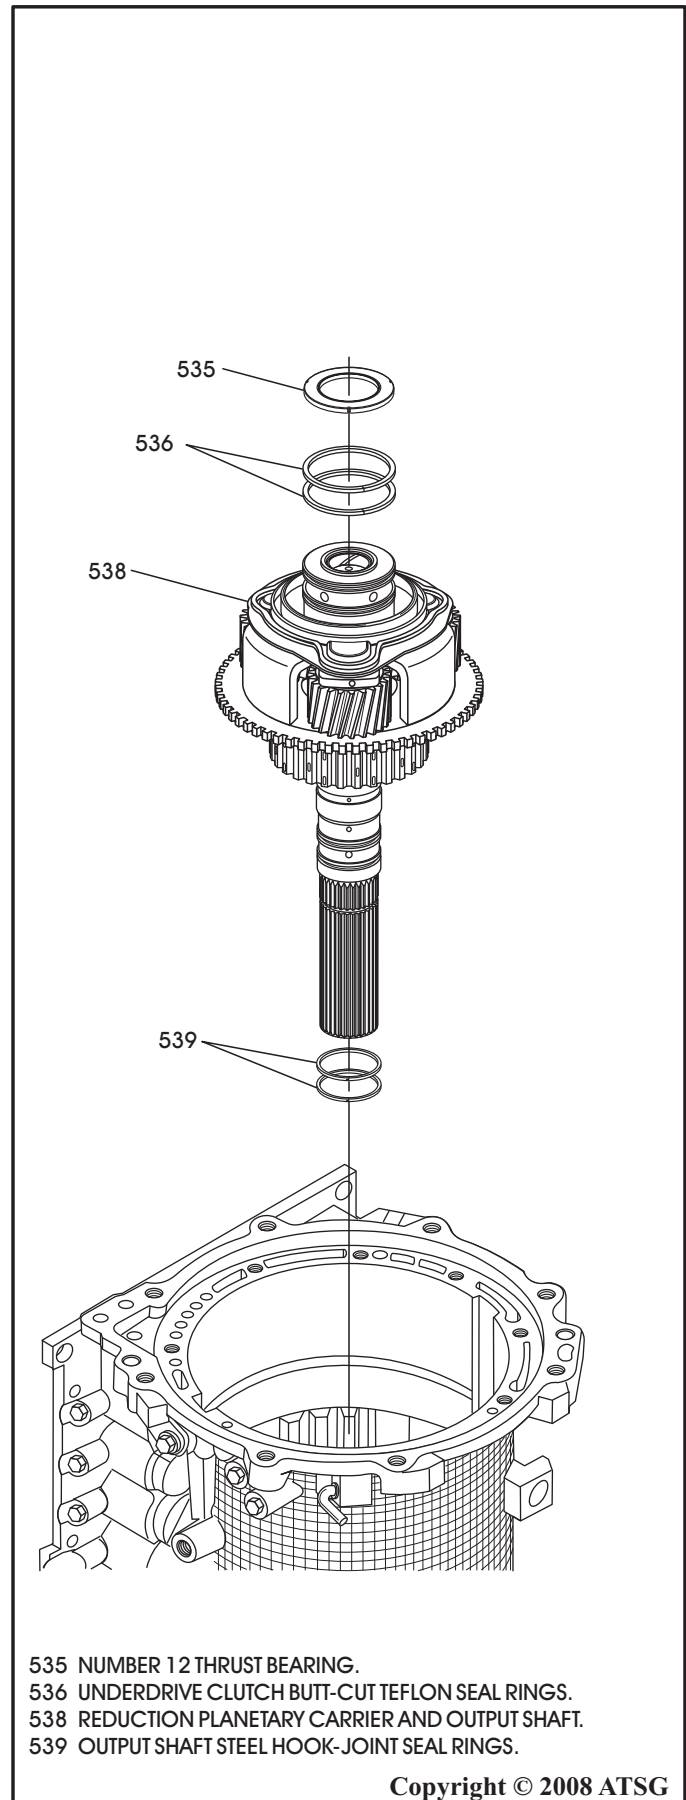

Figure 60
4. Remove number 12 thrust bearing, as shown in Figure 60.
5. Remove reduction planetary carrier and output shaft, as shown in Figure 60.
6. Remove and discard underdrive clutch butt-cut teflon seal rings, as shown in Figure 60.
7. Remove and discard the steel hook-joint seal rings, as shown in Figure 60.